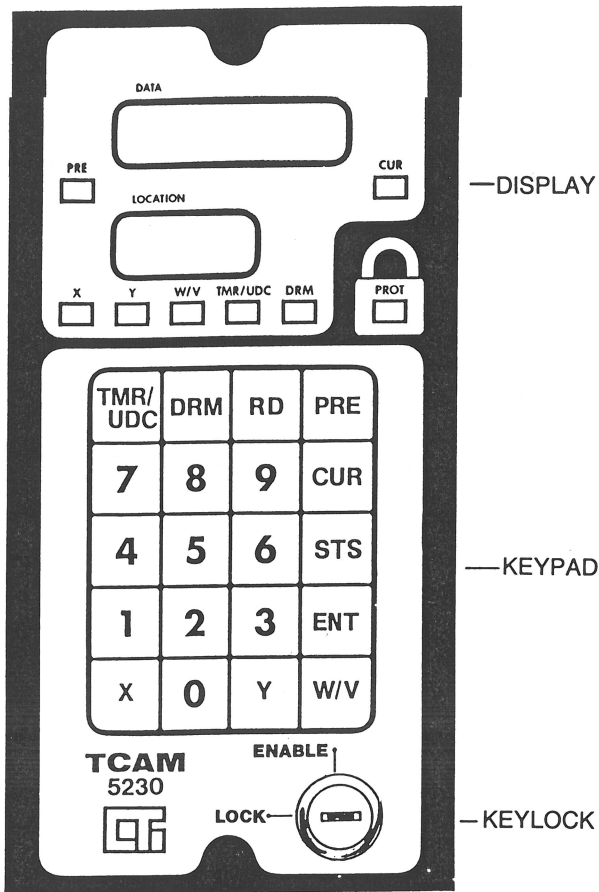

figure 1
1.1 FRONT PANEL (figure 1)
For description purposes, the front panel area is sub-divided into 3 sections, see figure 1.